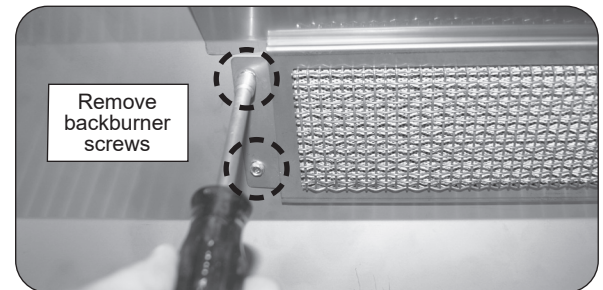

Fig. 34-3 Remove backburner mounting screws
2. Remove the backburner mounting screws ($\frac{1}{4}$ " hex) located at the left end of the backburner assembly (see Fig. 34-3).